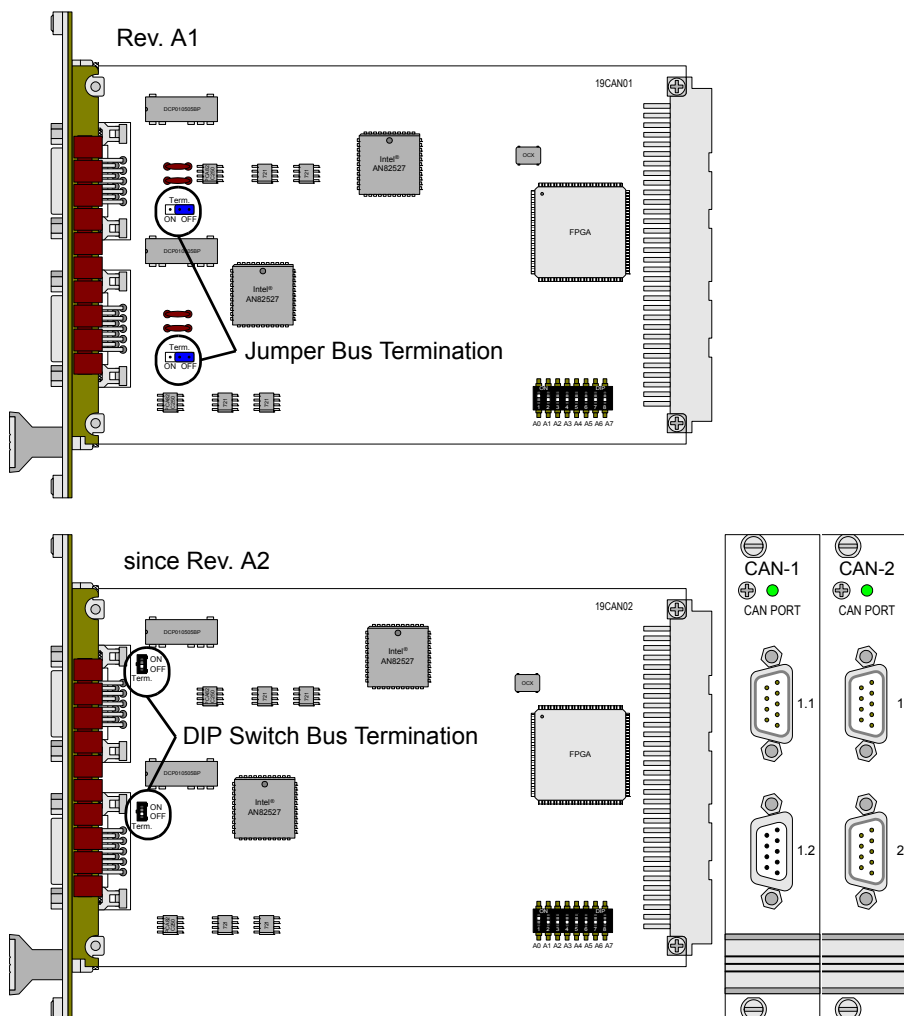

Fig. 310 – Pro-CAN-1/-2: PCB and front panels
If the CAN module functions as the physical termination of a high-speed CAN bus, it must be terminated with a 120Ω resistor (only the first or the last CAN node). If a termination is necessary, move the DIP switch (Rev. A2, see fig. 310) upward; when using the module revision A1 set the jumper to the left position (ON). CAN nodes, which are not positioned in an end-location, must not be terminated.